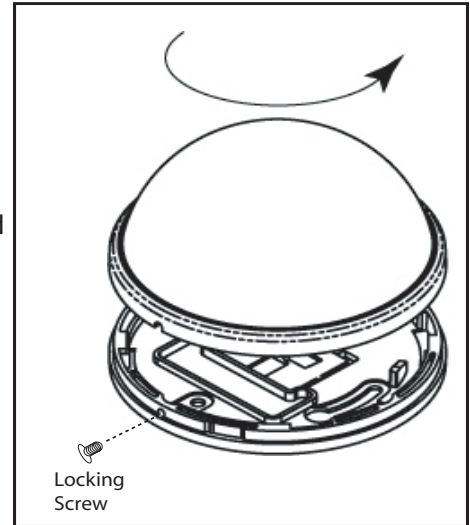

Figure 1: Remove the Base for Installation
1. Remove the front cover. See Figure 1.